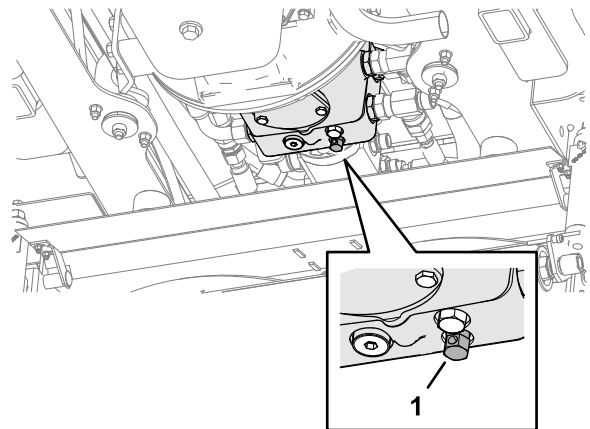

Figure 43
1. Release the hydraulic service braking system by turning the bypass valve, located under the transmission pump, counterclockwise, a maximum of 3 turns (Figure 43).